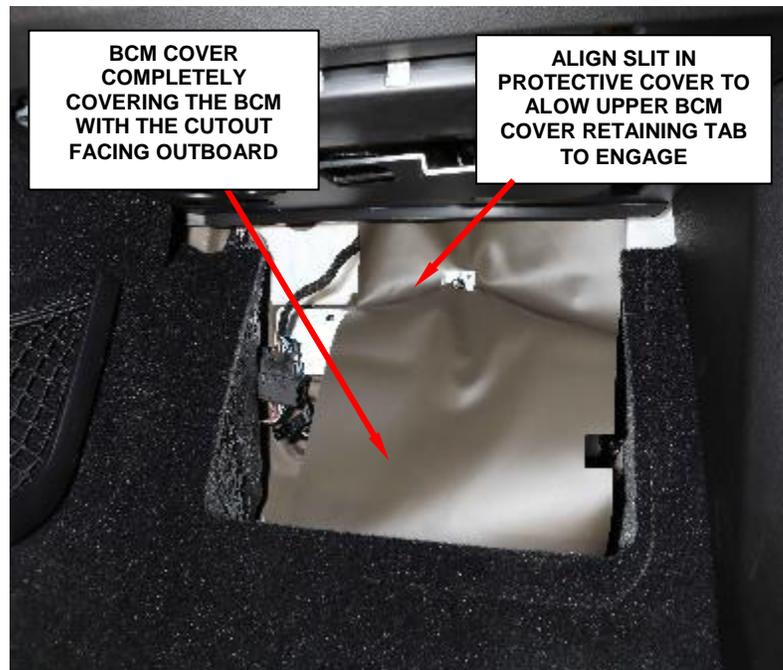

Figure 25 – Protective Cover Installed
7. Completely cover the BCM, as shown, **appropriately positioning the protective cover between BCM and mounting bracket**, so that it can be pulled out (Figure 25).